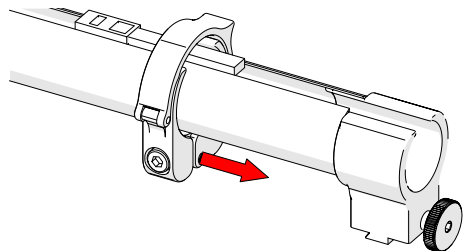

Fig. 78 - Slide clamp onto mount
3. Slide the clamp over the tube and cable management dovetail mount, pinching the tube in between (Fig. 78).